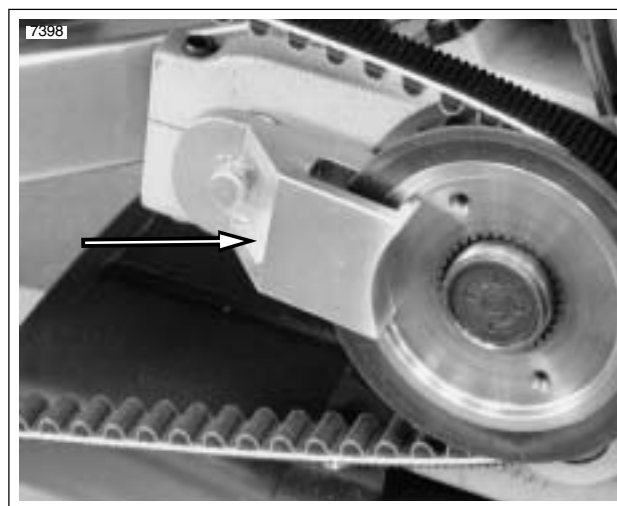

**Figure 6-55. Transmission Sprocket**
1. See Figure 6-55. Place transmission in first gear. Remove two socket head screws (5) and lockplate (4).
2. See Figure 6-55. Remove transmission sprocket nut (3) from main drive gear shaft (1).
1. See Figure 6-55. Install transmission sprocket (2) with secondary drive belt onto main drive gear shaft (1).
3. Apply a few drops of LOCTITE 262 (red) to the **left-hand threads** of transmission sprocket nut (3) and lightly coat the washer-faced side with clean H-D 20W50 engine oil. Wipe off any excess oil.
9. See Figure 6-55. Install lockplate over nut so that two of lockplate's four drilled holes (diagonally opposite) align with sprocket's two tapped holes.
11. See Figure 6-55. Install two socket head screws through aligned holes of lockplate and into tapped holes of sprocket. Tighten to 90-110 **in-lbs** (10-12 Nm).